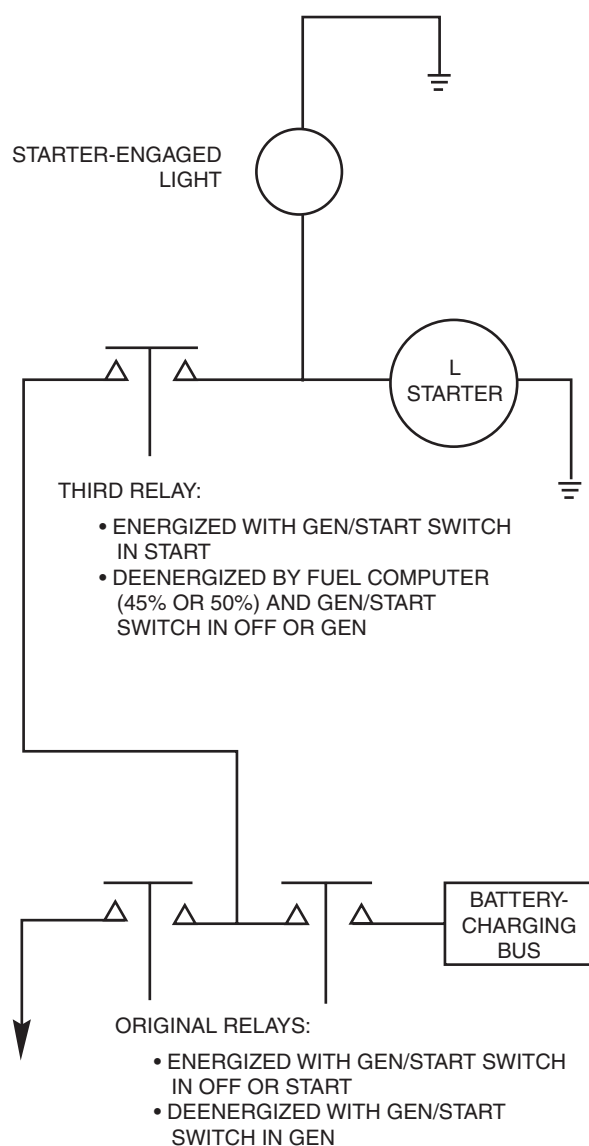

Figure 7-16. Installation of AAK 81-1
- AAK 81-1 installs a third starter relay in series between the two existing relays and the starter motor; the circuits which energize the relays are redesigned. AMK 80-17 is a prerequisite or concurrent requirement for this modification (Figure 7-16).